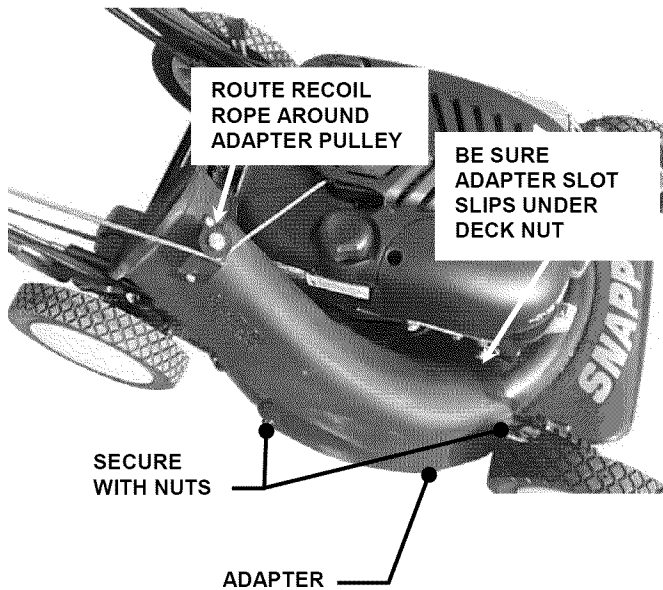

FIGURE 2.9
STEP 1: Install the grass bag adapter and secure to the side and top of the deck with the two nuts provided on the machine. Slot in front edge of adapter must be under nut located on top of deck. See Figure 2.9.
STEP 2: Route recoil rope around pulley on top of bag adapter. See Figure 2.9.